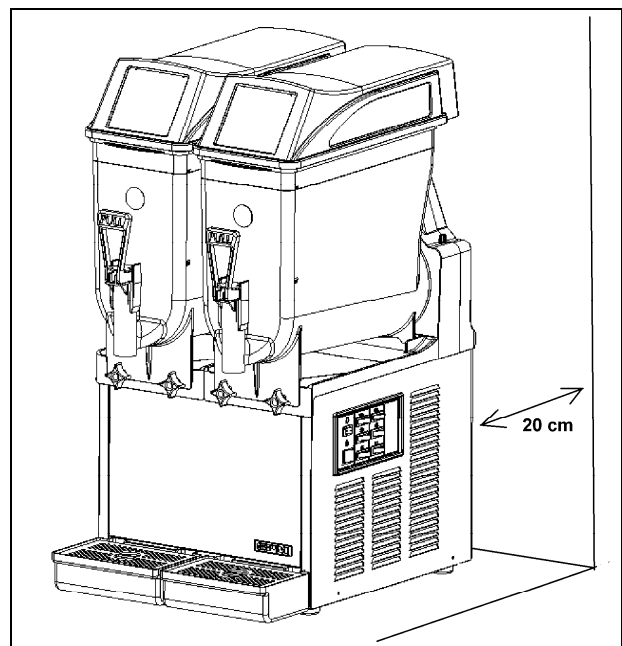

Fig. 2
- b) Rest the machine on a sturdy, flat surface making sure it is well ventilated by **leaving a gap of 8 in all around it** and do not install it near heat sources (fig.2); **we recommend you to maintain a room temperature between 75 and 100°F.**